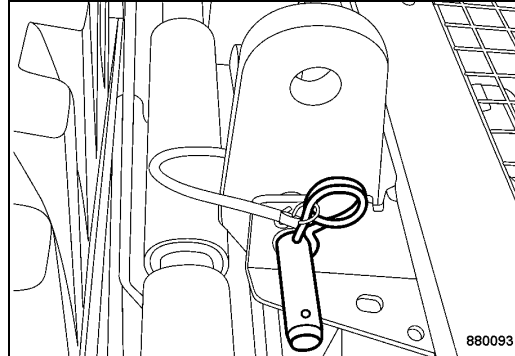

Fig. 89
- Insert the bolt (Fig. 89) and secure it with the cotter pin.